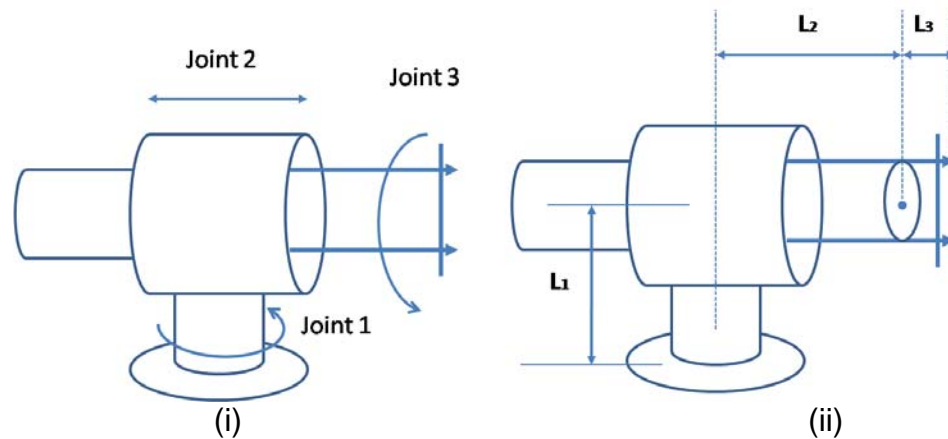

Figure 4[b]
- [c] Figure 4[c] shows a manipulator with its link parameters and transformation 0_3T . Solve the inverse kinematics of the manipulator to obtain the joint angles θ_1, θ_2 and θ_3 when the desired position of the gripper at the (x_0, y_0) coordinates is (260 mm, 580 mm), and the desired orientation of the gripper is $\phi = 120^\circ$ relative to X_0 axis.